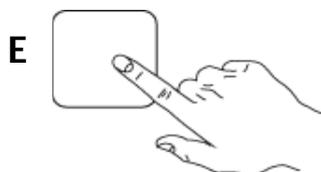

Fig.20
- 1- Press the "E" key to select the wash cycle. (Fig. 20)